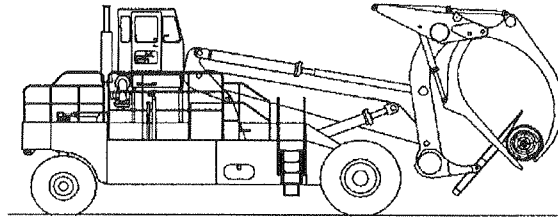

Fig 4-11
- Fig. 4-11 shows a good example of the Lumberjack's flexibility. The log is under the tines and is held by the hold-down and kickoff arms. Partial loads should be held with the hold-down and the kickoff arms.